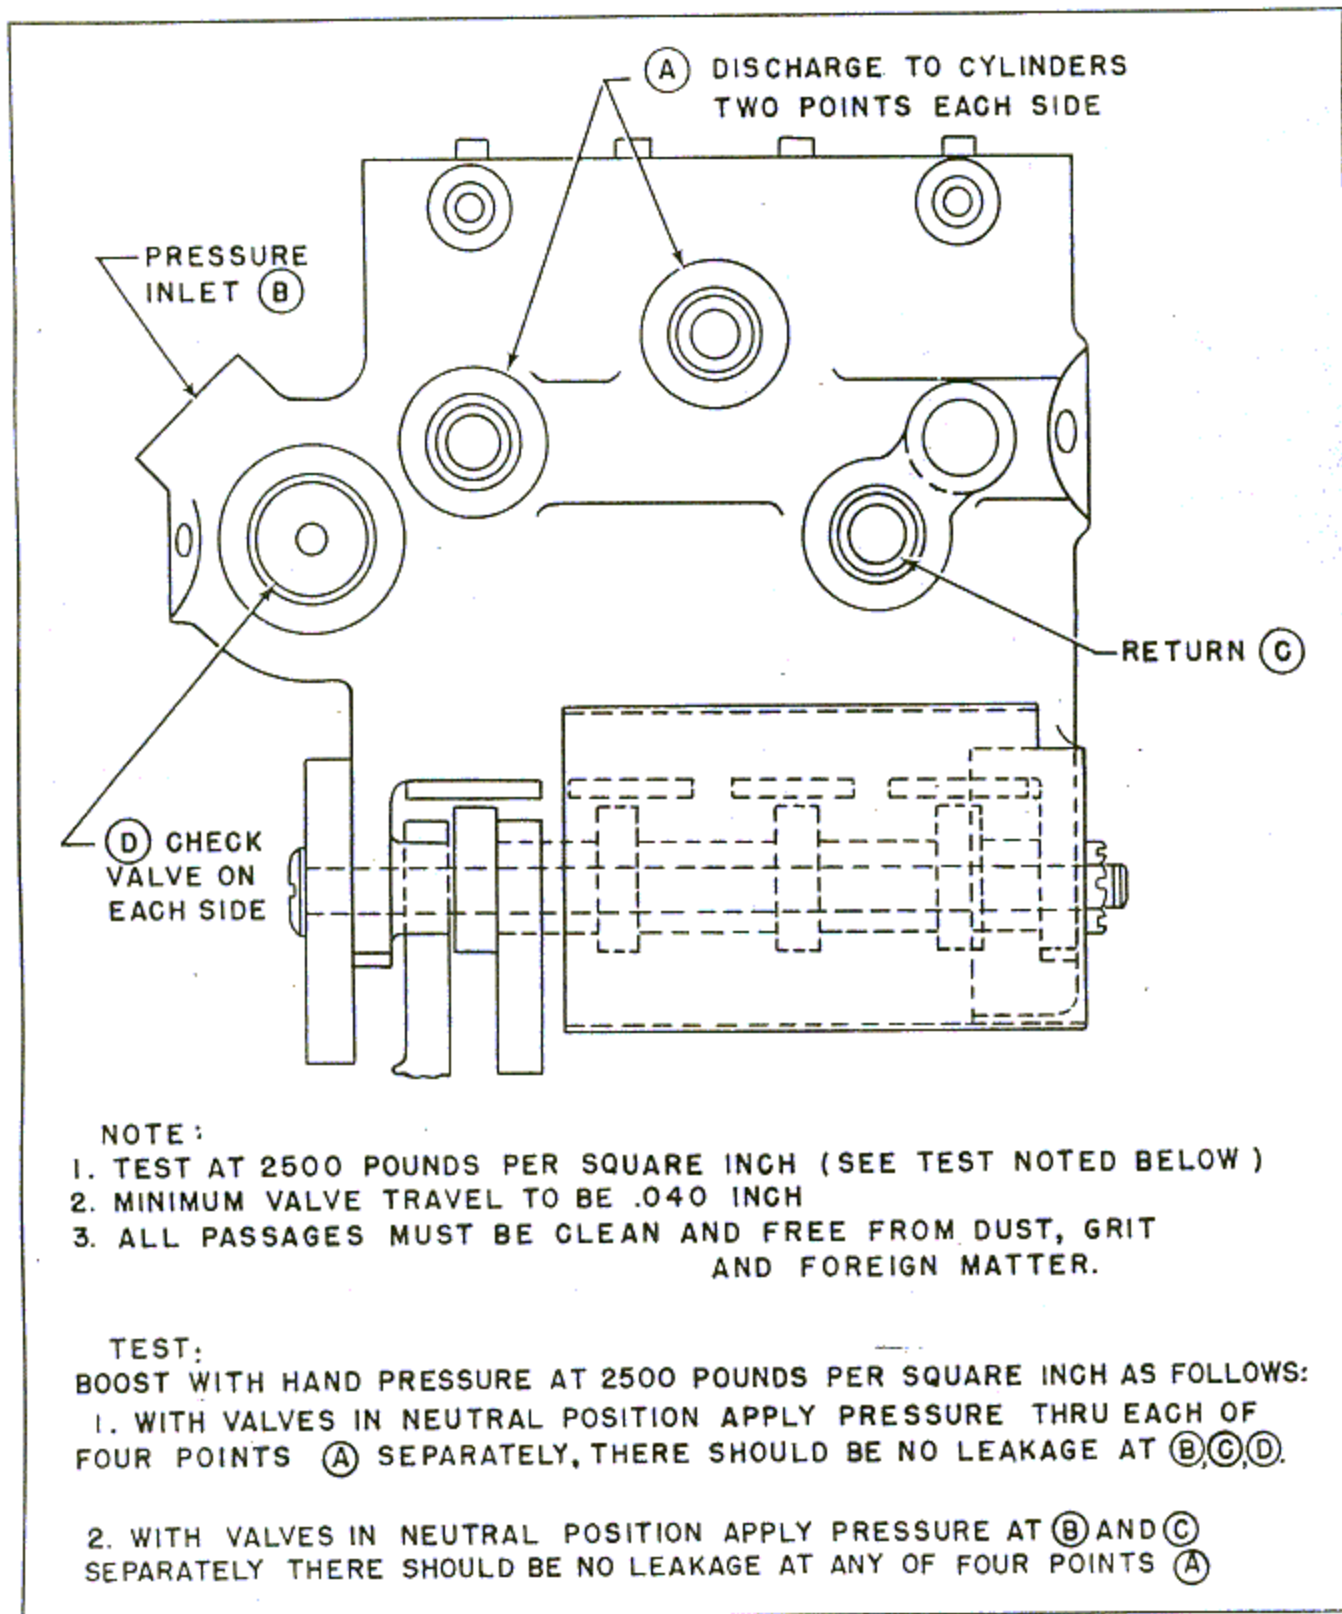

Figure 241—Test of Hydraulic Control Valve
2. Before installation in the airplane, test the control valve for leakage under pressure in accordance with instructions given on figure 241.
(5) CHECK VALVE.